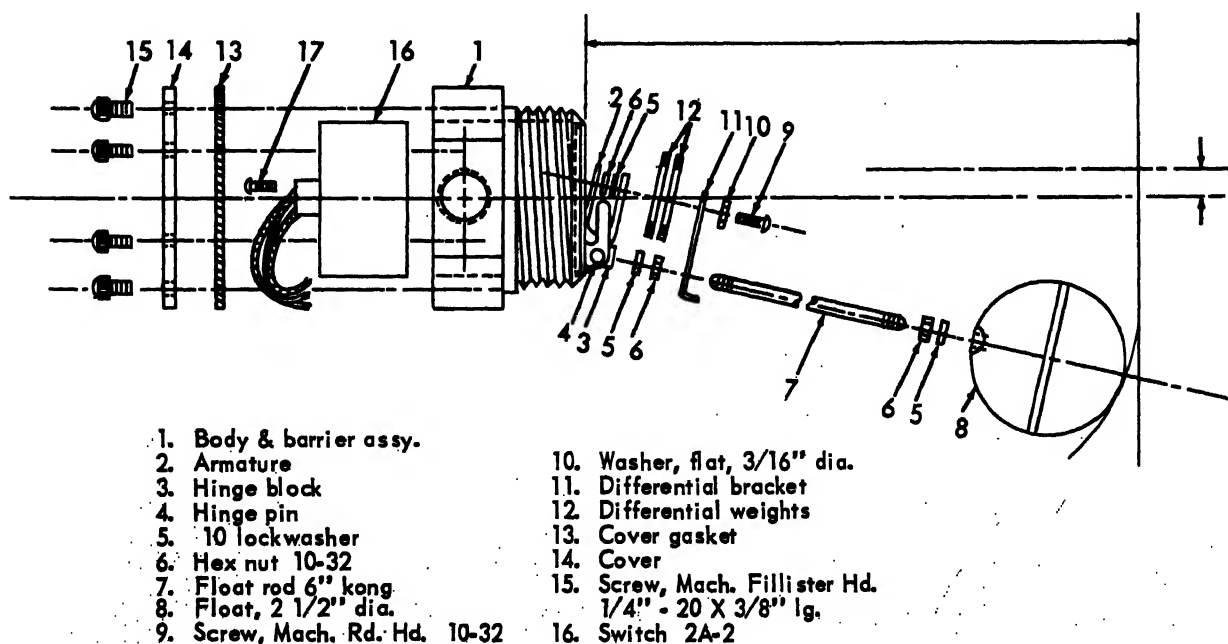

FIGURE 56. LOW LEVEL ASSEMBLY AND DISASSEMBLY
2. Refer to Fig. 56 and disassemble the low fluid level cut off.
1. Refer to Fig. 56 and reassemble the low fluid level cutoff.